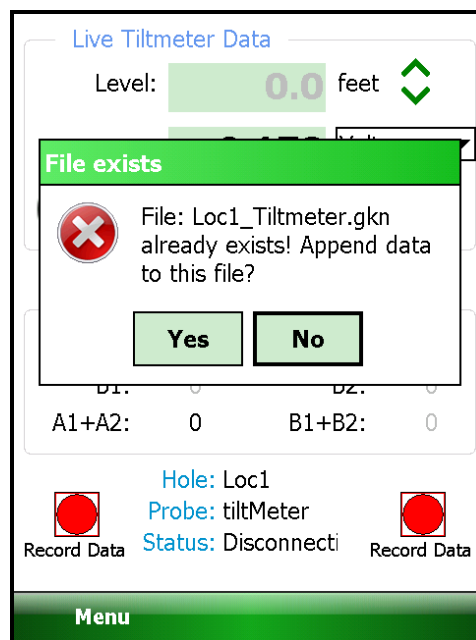

Figure 87 - File Exists Dialog
12. After tapping "Save" the GK-604D IRA will determine if the file exists. If this is a new file then the data will be written to it in a format similar to the standard Inclinator format. If a file of the same name already exists then the dialog shown in Figure 87 will be displayed.
9. After tapping "Save" the GK-604D IRA will determine if the file exists. If this is a new file then the data will be written to it in a format similar to the standard Inclinator format. If a file of the same name already exists then the dialog shown in Figure 87 will be displayed.